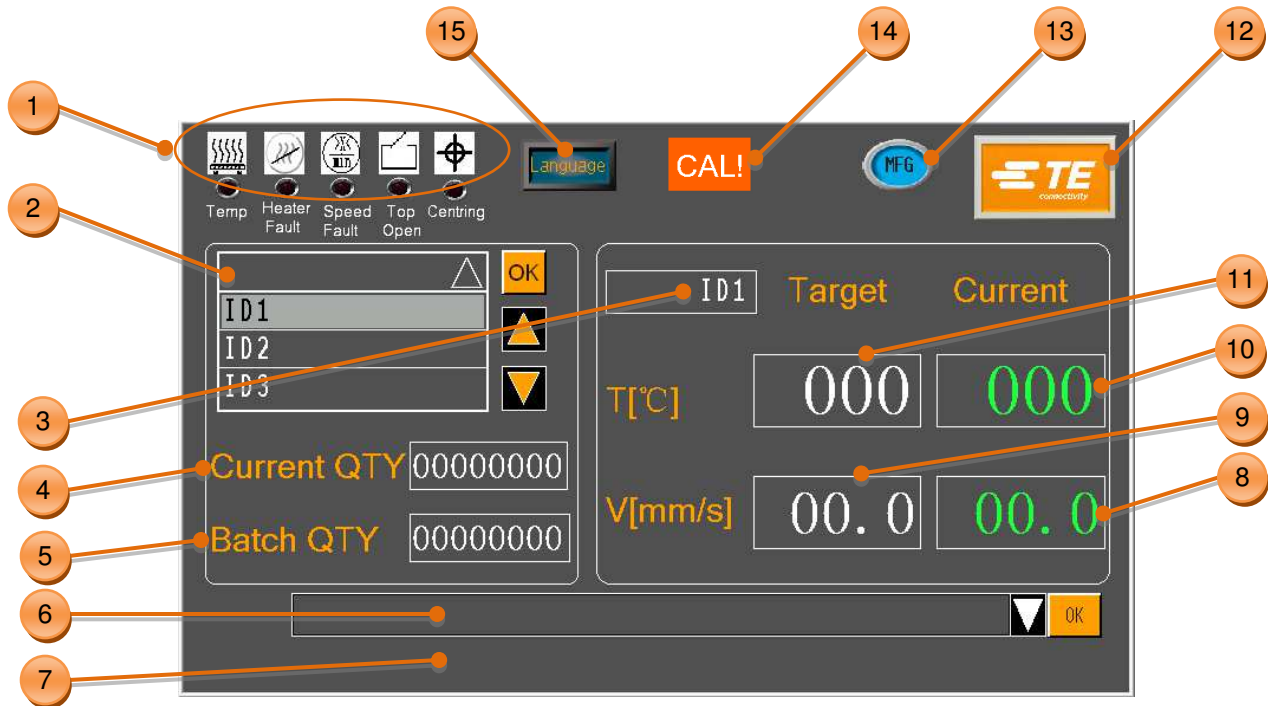

Fig.12 Main Interface
In touch panel, select the preset heating parameter which stored in touch panel (see Fig.12, item 2 process number), to check if machine will change the temperature and belt speed accordingly.